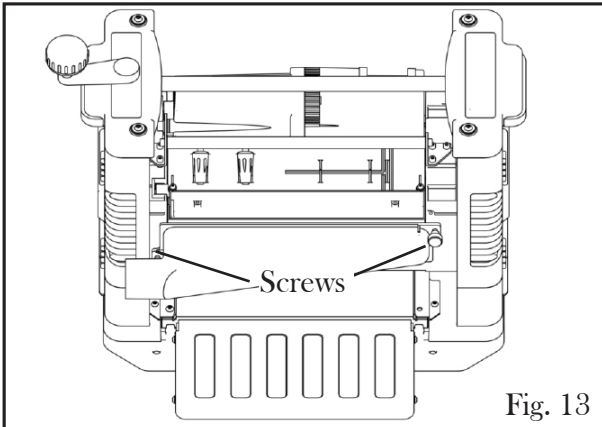

Fig. 13
CHANGING BLADES (Fig. 13 - 16)
1. Remove the dust chute by unscrewing the thumb screws that are located in their opposing corners (Fig. 13).